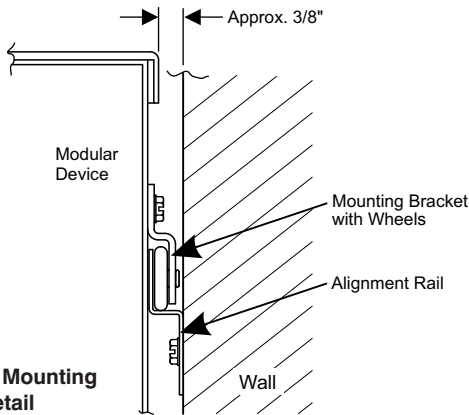

Fig. 5: QuickRoll Mounting Bracket detail
Step 3. Hang Main Module Unit by slipping the QuickRoll mounting bracket over the alignment rail as shown in Fig. 5.
Position mounting tabs and remove small knockouts if used (see Fig. 2). Hang module by slipping the QuickRoll mounting bracket over the alignment rail as shown in Fig. 5.